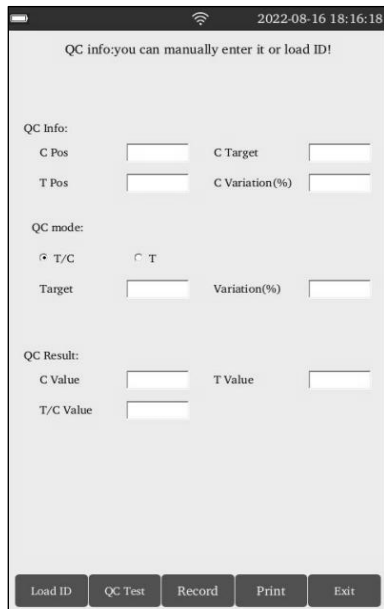

Fig 21
2) Tap **"QC"** to enter the interface. (Ref Fig 21)